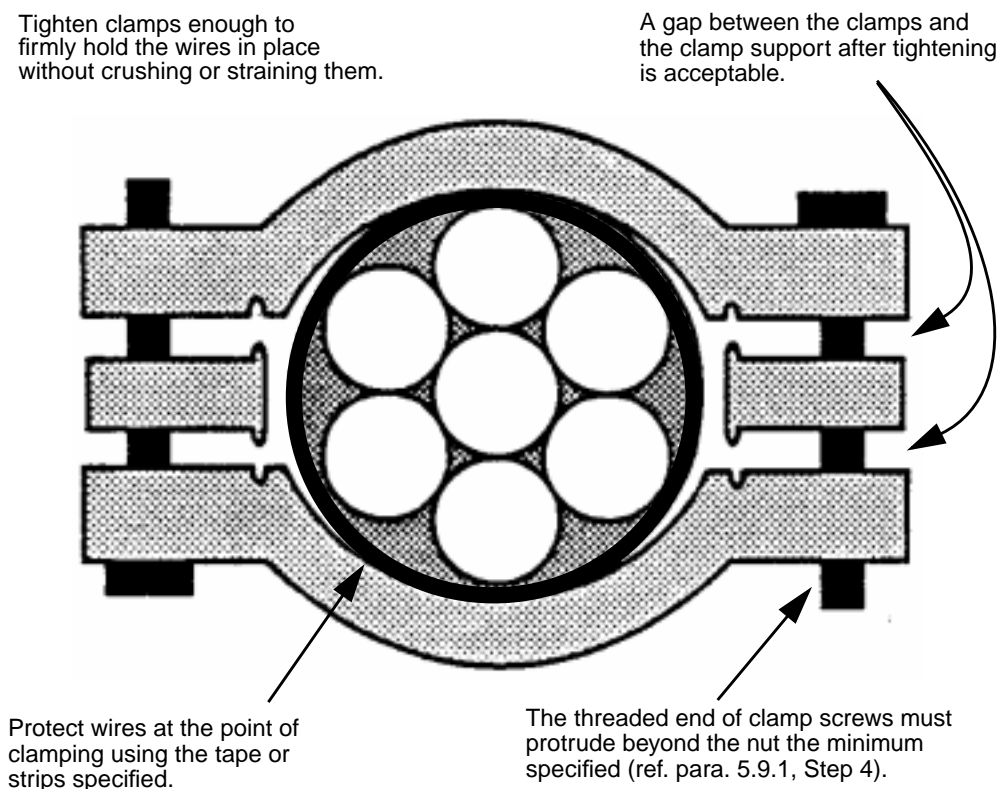

Figure 13 - Assembly of Securing Hardware
- Step 5. Tighten clamps enough to firmly hold the wires in place without crushing or straining them. If necessary, increase the amount of tape or strips protecting the wires at the point of clamping to ensure that the clamp will grip the wires firmly when tightened. Except when terminating terminal lugs at the strain relief clamp, gaps between the clamps and clamp support after tightening as shown in Figure 13 are acceptable even if this allows some lateral movement of the harness with the clamps on the clamp support; **do not** over-tighten to close such gaps. For Dash 8 Series 400 aircraft, terminate terminal lugs at strain relief clamps according to PPS 9.39; for Dash 8 Series 100, 200 and 300 aircraft, terminate terminal lugs at strain relief clamps according to PPS 9.04. The threaded end of clamp screws must protrude beyond the nut a minimum of the full round or chamfer; in the case of flat end screws, the threaded end must protrude a minimum of 1/32" or 1 1/2 threads, whichever is greater. If, when the connector is installed, the threaded end of a clamp screw could cause potential abrasion of an adjacent wire harness and adjustment of backshell clocking orientation (as specified in para. 5.13.8) will not completely eliminate the problem, swap the direction of the backshell clamp screws and/or substitute shorter clamp screws of the same type (provided the minimum screw protrusion limit will be met).